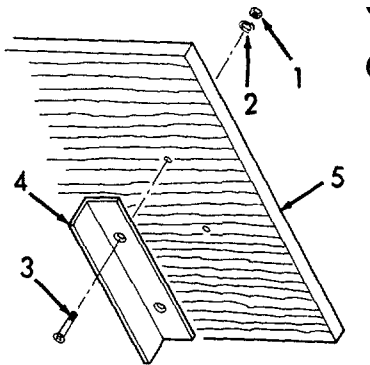

Figure 5-19. Button Sewing Machine Tray, Removal.
- (1) Inspect for damaged wood.
- (2) Inspect for rust, corrosion, and visible damage.
- (3) Inspect for damaged holddown straps and tray pulls.
- (4) Inspect for loose or missing hardware.
- (5) Check that felt absorbers are not damaged or deteriorated.
b. Removal. (Refer to Figure 5-19).